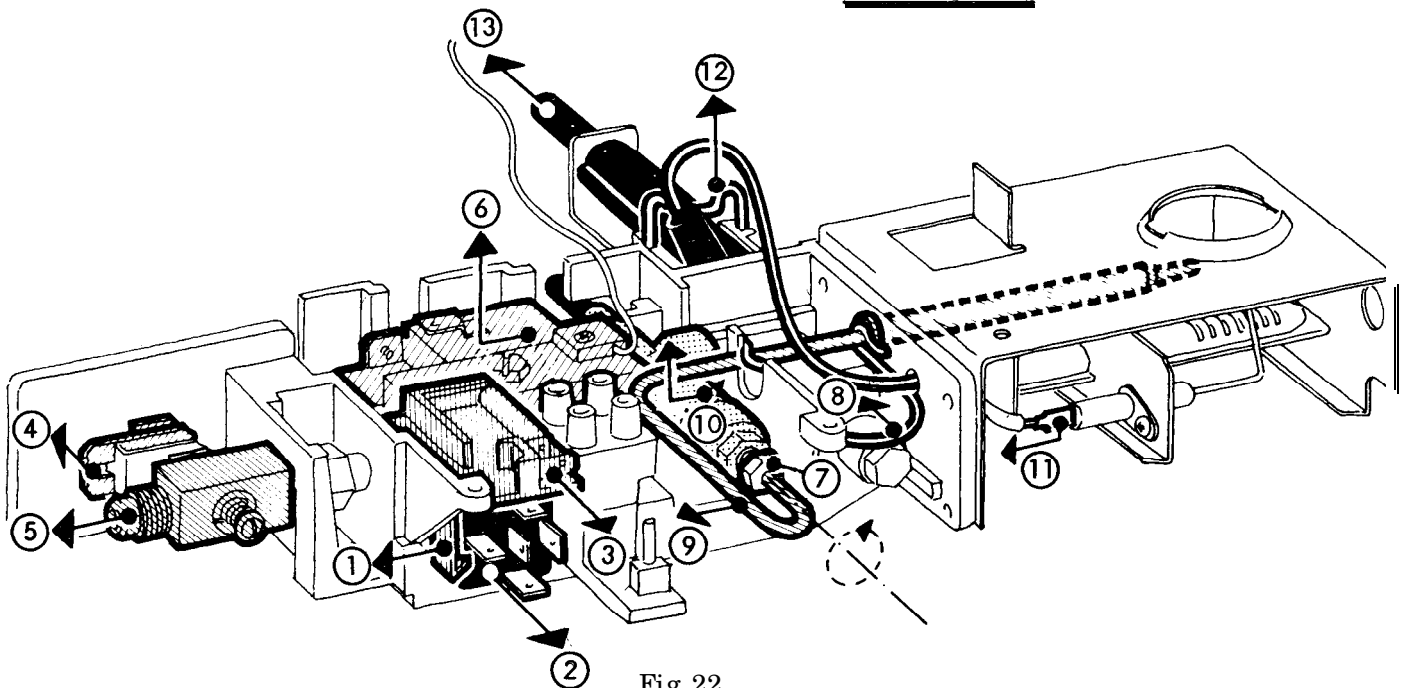

Fig.22
1. Press the plastic latch (leftwards in Fig. 22).